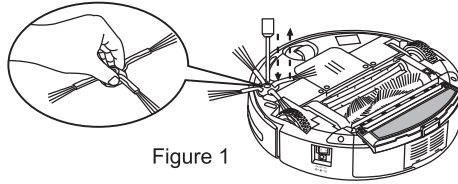

Figure 1
2. Press the side brush against the main shaft and then fasten the screw (Refer Fig 1) to re-assemble.